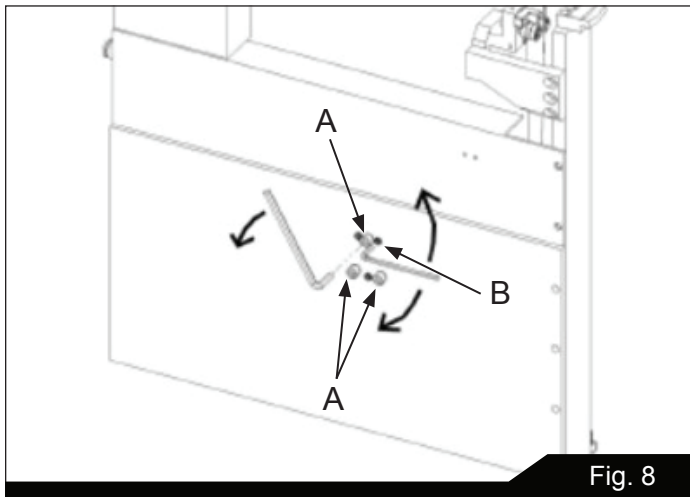

Fig. 8
1. Loosen the three (3) hex head mounting bolts (A, Fig. 8) on the back side of the lower wheel housing 1 to 1-1/2 turns.
2. Adjust the set screw (B, Fig. 8) to change the tracking of the blade.
3. When the tracking is correct, evenly tighten the three (3) hex head screws.